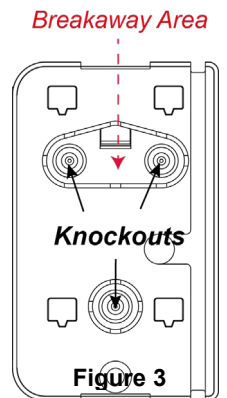

Figure 3
- 1) The provided mounting bracket has 3 knockouts, where the plastic is thinner and can be broken for mounting purpose. (Figure 3)